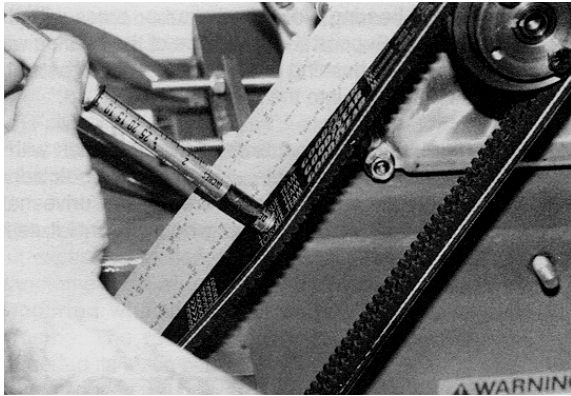

FIGURE 38.
b) Check belt tension with the spring scale or belt tension tool midway between the engine/electric motor and driveshaft pulleys. Belt deflection should measure approximately 3/16 inch at 3-7/8 to 5-1/2 pounds force. FIGURE 38.